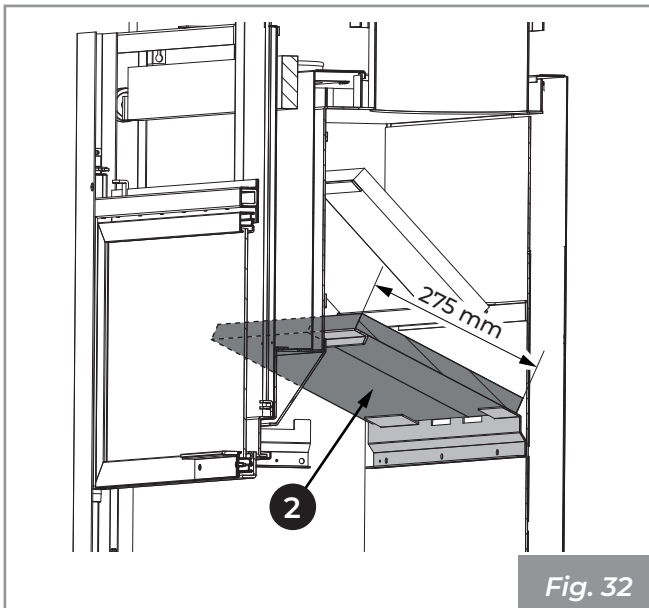

Fig. 32
- 4) Slide out and extract the panels (**2**) (**Fig. 32**).